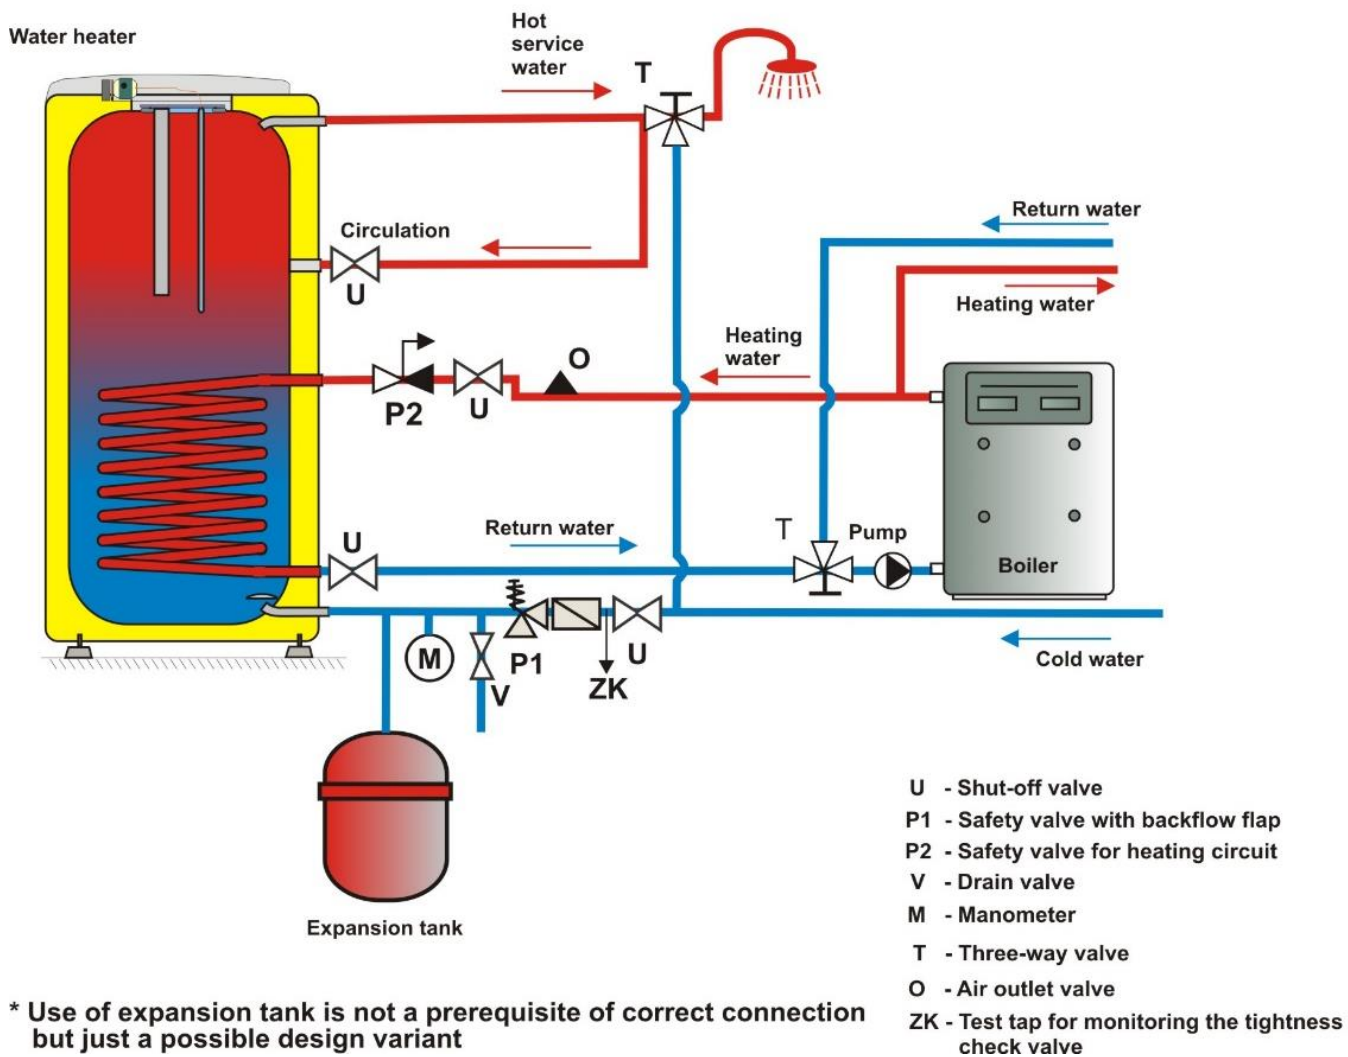
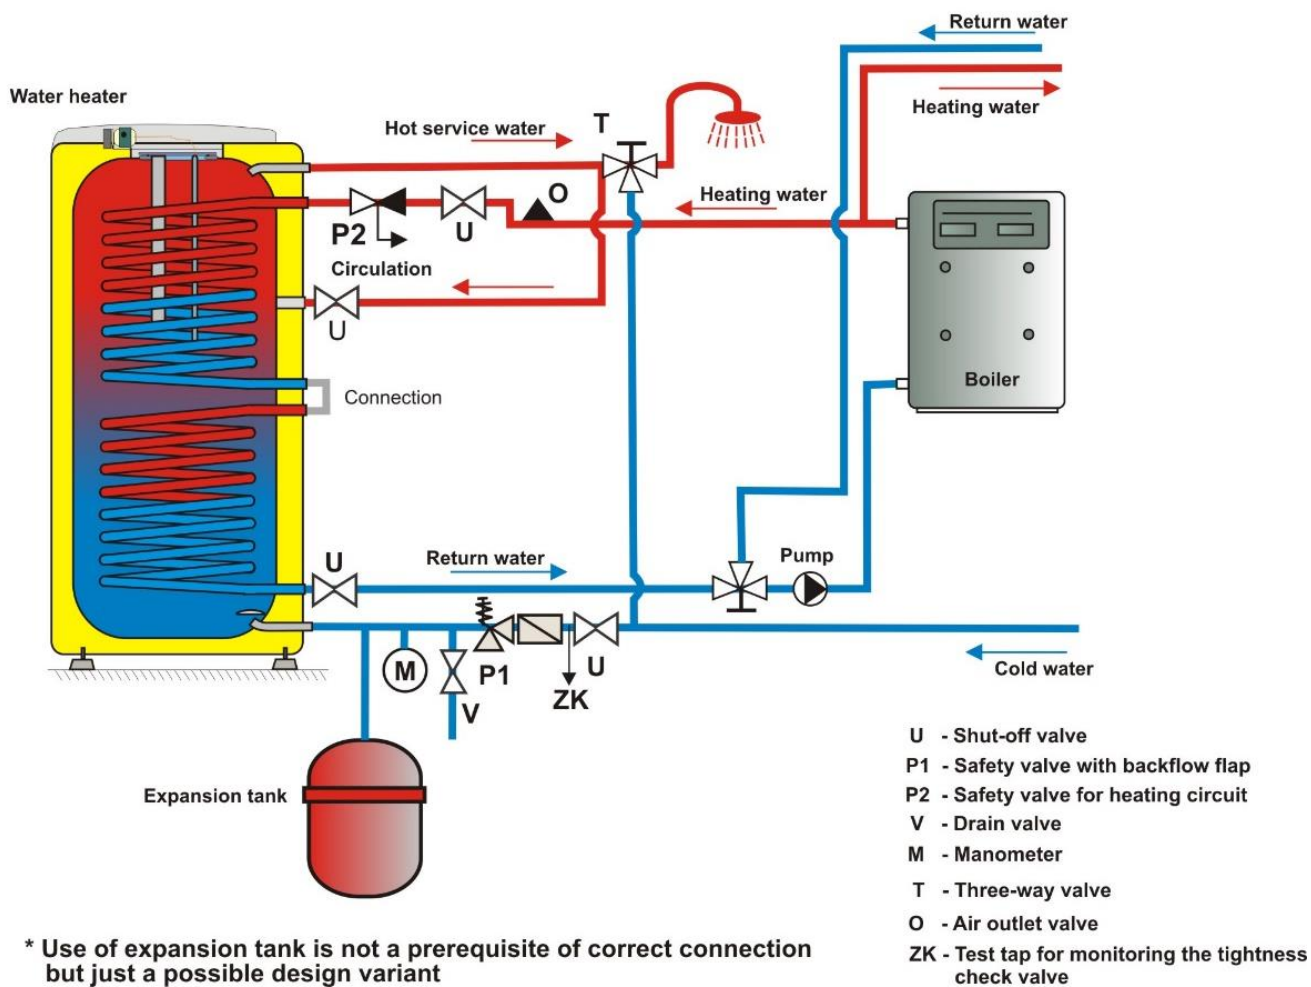
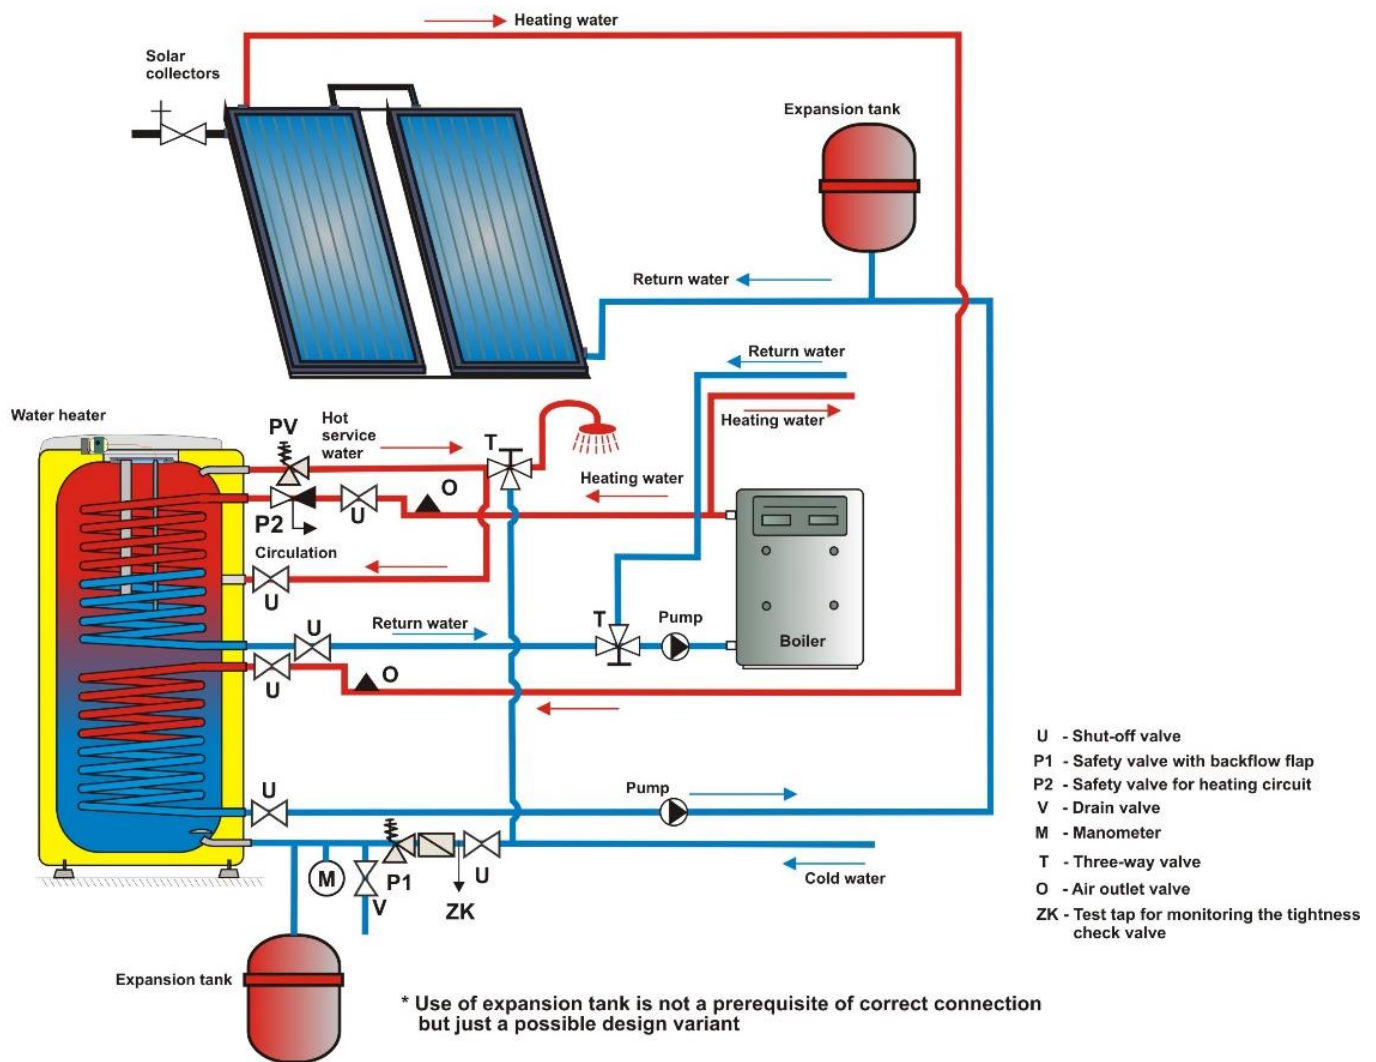

Figure 13
Figure 14
Figure 15
Connecting tanks to plumbing fixtures is shown in (Figure 12, Figure 13, Figure 14, Figure 15, Figure 16, Figure 17). For potential disconnection of the tank, utility water inlets and outlets must be provided with  $\frac{3}{4}$ " screw coupling. If the hot utility water (HUW) distribution is equipped with circulation circuit, the reverse pipe is connected to the inlet identified as CIRCULATION. Types 100, 125, 160 NTR and 100, 125, 160 NTR / HV are equipped with a drain outlet. A "T" plumbing with a drain valve has to be mounted in type 200 and 250 NTR(R) on the HSW inlet. The tank shall be equipped with a safety valve to ensure the operation. The safety valve is mounted on the cold water inlet identified with a blue ring. We recommend that the hot water distribution from the heater was as short as possible to minimize heat losses. Tanks must be provided with a discharge valve mounted on the cold service water inlet into the heater for potential disassembly or repair.